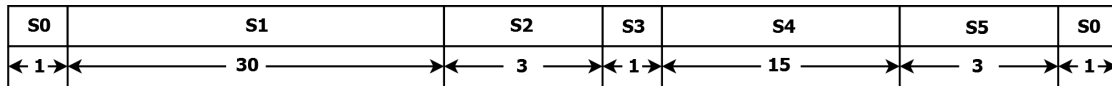

Figure 6: Time Line in Seconds of Initial FSM design
The brain of the traffic light controller is the FSM. For the the initial design, *Count* and *Rst* constitute the only input to the FSM. The output of the FSM includes the *highwaySignal* and *farmSignal* previously mentioned as well as *RstCount*, the counter reset. The operation of the FSM came be described by Table 1 and the time line in Figure 6. We can also describe this behavior using a state diagram similar to that seen
3. Given Table 1 and Figure 6, create a state diagram for the traffic light controller FSM. Be sure to include the appropriate input and output labels. Assume $S0$ is the reset state.